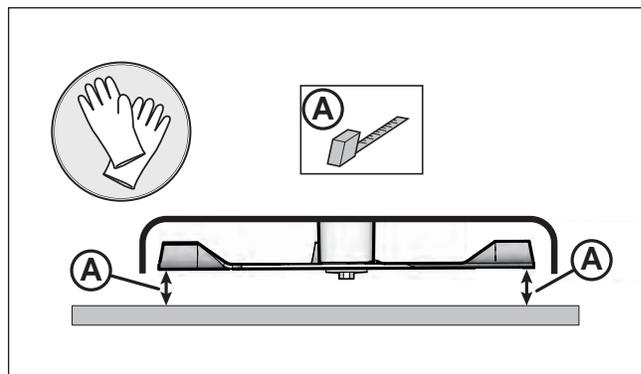

Figure 42. Checking The Blade Height Measurement
5. See Figure 42. Position the mower blades to that they face front-to-back.
6. Measure the front tip (A) of the blade from the cutting edge to the ground.
7. Measure the rear tip (A) of the blade from the cutting edge to the ground.